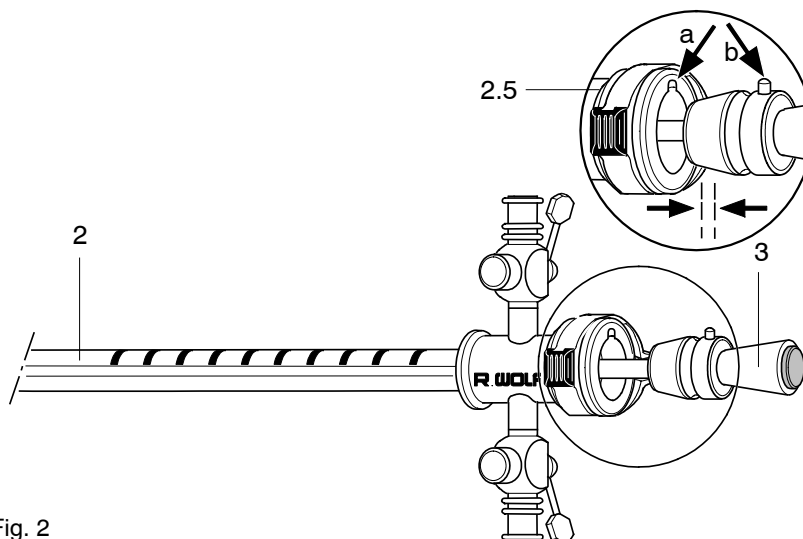

Fig. 2
- ◇ Insert obturator (3) in sheath (2) in such a way, that groove (a) and pin (b) are aligned, push together until the connection interlocks automatically (Fig. 2).